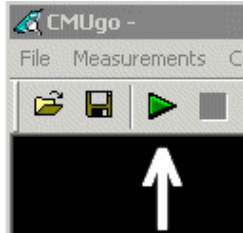

Fig. 3.5.2\_11: Start icon in the menu bar of CMUgo
- Click the start icon in the menu bar of CMUgo (see Fig. 3.5.2\_11).